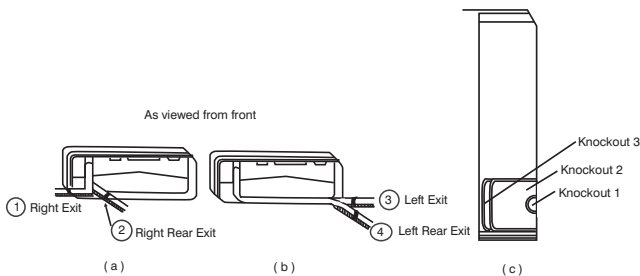

Fig. 24 - Refrigerant Line Routing
The refrigerant lines may be routed in any of the four directions shown in Fig. 24 (a) and (b).
1. Use a small saw blade to carefully remove the corresponding plastic covering on side panel and drill the appropriate size hole where the pipe is going through the wall (see Fig. 24 (c)).